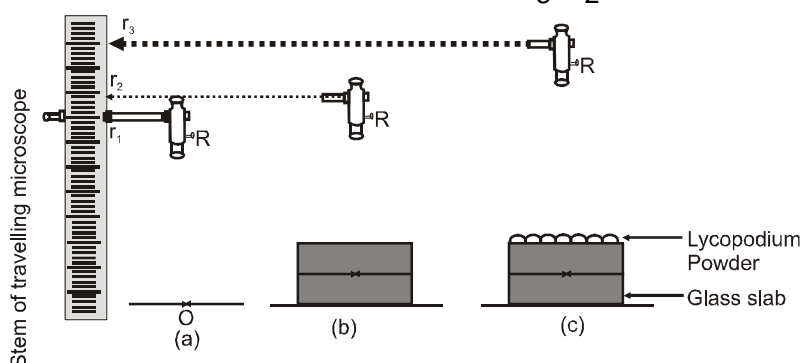

Fig. 17 Travelling microscope taking reading (a) at the cross mark (b) at the cross mark with slab placed on it (c) at powder sprinkled on the top of the slab
For accurate measurements of depths, a travelling microscope [Fig. 17(a)] is used.
5. Move the microscope very gently. Using the screw, focus the eye piece on cross mark and bring the cross in focus such that the cross wires, coincides with the marked cross on the paper. Note the reading of the microscope as  $r_1$  [Fig. 17(a)]
7. Move the microscope gradually and gently upward to bring the cross mark in focus and on cross of cross wires. Record the reading as  $r_2$  [Fig. 17(b)]
8. Sprinkle some fine lycopodium powder on the glass slab and move the microscope upward till the powder particle come into focus. Record the reading on the scale as  $r_3$  [Fig 17(c)]